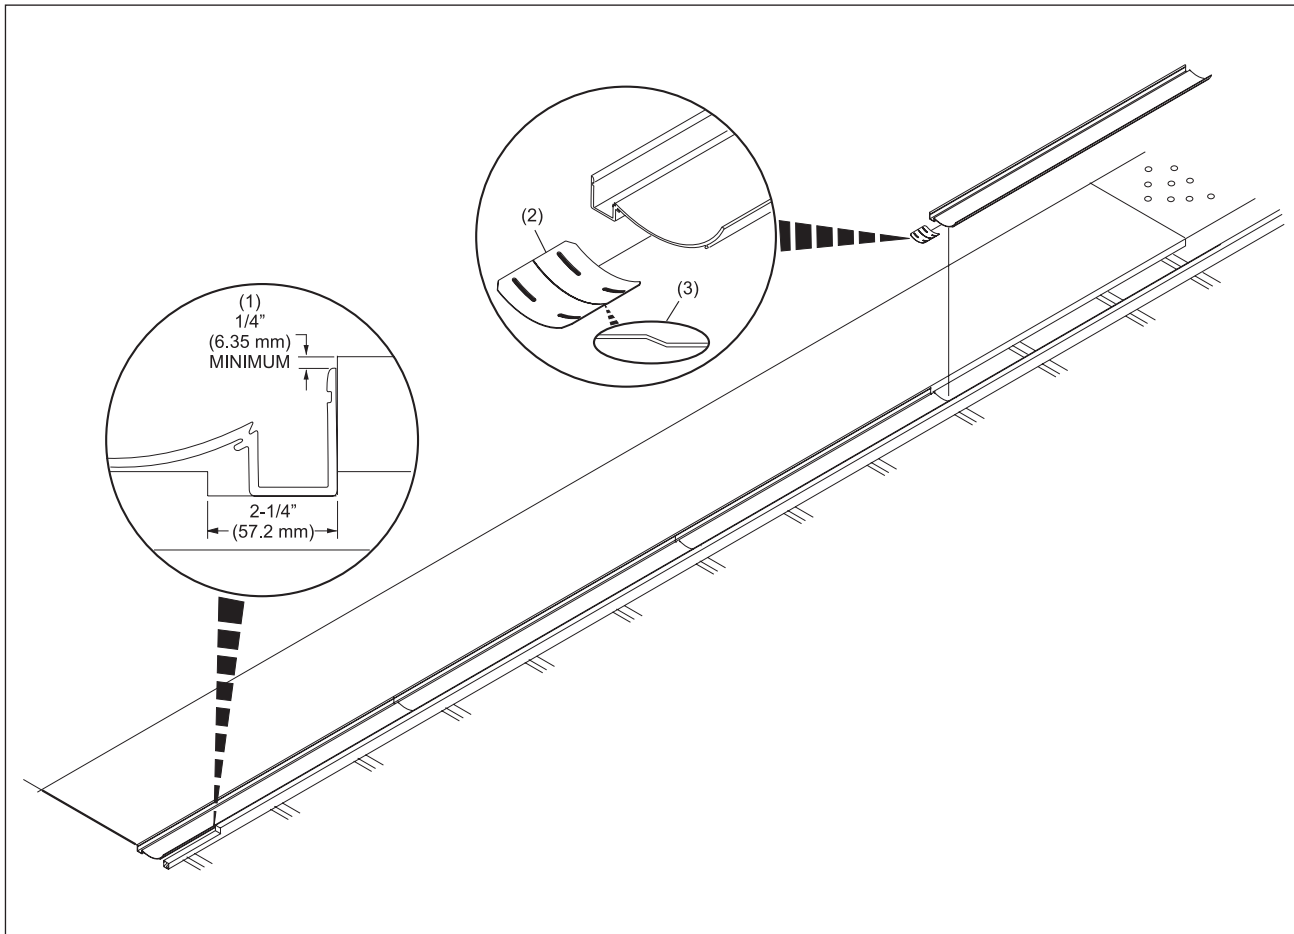

Figure 17. Place New Gutter Into Position
- Slide a gutter coupler (P/N 84-200462-000) into the foul line end of the fourth gutter section and carefully insert into groove of third gutter section. **Make sure joint has step down toward the pindeck.** Refer to *Figure 17*.